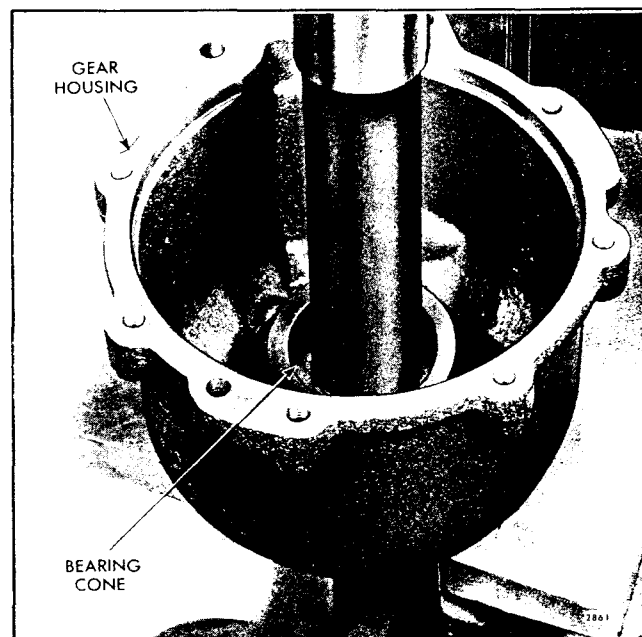

Fig. 41 - Removing Reduction Gear Drive Shaft Roller Bearing Cone and Cup from Gear Housing (2.1:1 Ratio)
- d. Place a 2-1/4" round steel bar on top of the inner bearing cone, inside the reduction gear housing, and under the ram of the press as shown in Fig. 41.